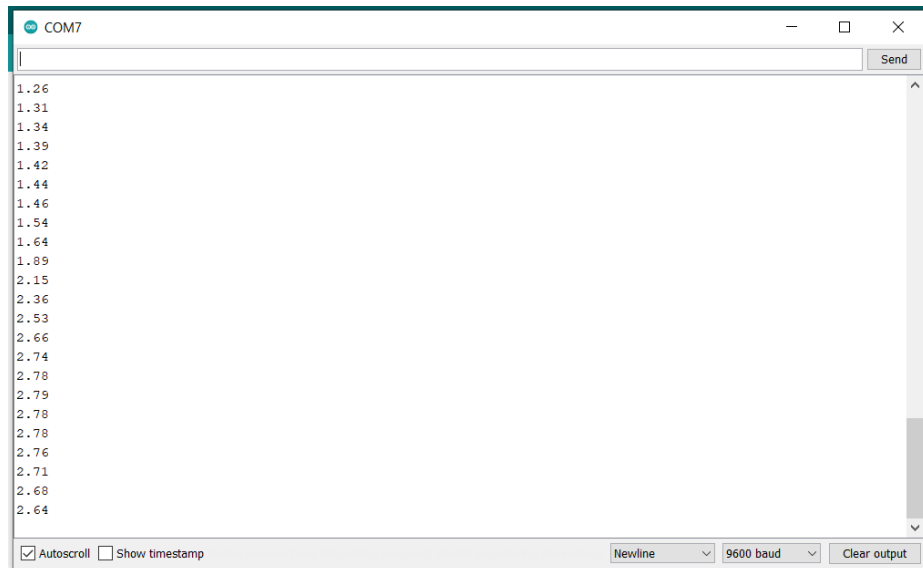

Figure 07: Arduino serial monitor
3. Open the Serial Monitor and check the output voltage values as figure 07.